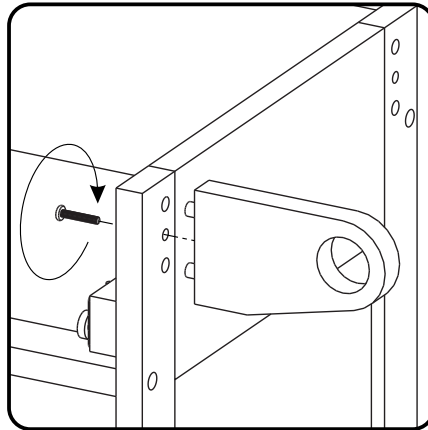

Figure 4
Attach Arm Handles (W) to unit with Head Cap Bolts. (See Figure 4)